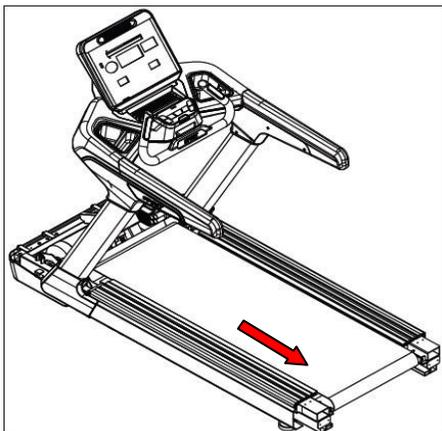

Figure 4.6.3
4) As shown in Figure 4.6.3, remove the left and right trims in direction of the arrow.